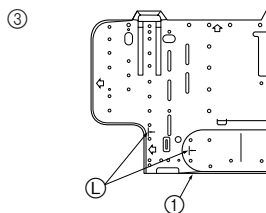
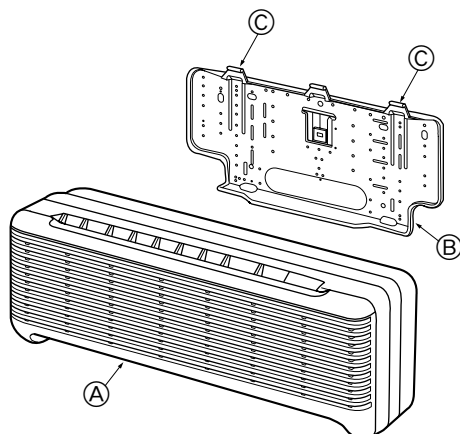

Fig. 3-7
Fig. 3-8
- ③ If the flare pipe is to be embedded into the wall in advance: (Fig. 3-7)
① Mark
① Wall mounting fixture
3.3. Mounting the unit (Fig. 3-8)
- ① Securely place the hanging fixtures for the indoor unit over the catches on the wall mounting fixture.